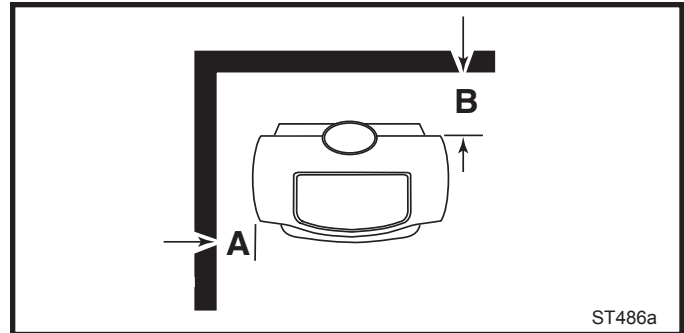

Fig. 12 Minimum clearances.
**Minimum rear clearance from combustible walls (e.g. timber framed or studded walls) 254 mm (10") measured from the rear edge of the stove top. (Fig. 12, B)**
**Minimum side clearance from combustible walls 483 mm (19") measured from the side edge of the stove top. (Fig. 12, A)**